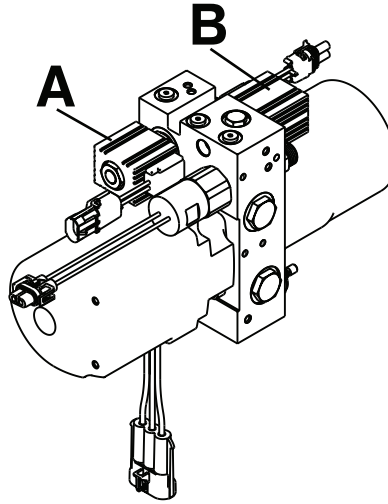

Figure 13: Hydraulic A valve or B valve replacement
5. Using a 3/4" combination wrench, remove the nut that secures the solenoid to the A valve (A) or B valve (B). (Figure 13 on page 40). Save the nut for reinstallation.
7. Using a 7/8" combination wrench, remove the A valve or B valve from the hydraulic subassembly. (Figure 13 on page 40).